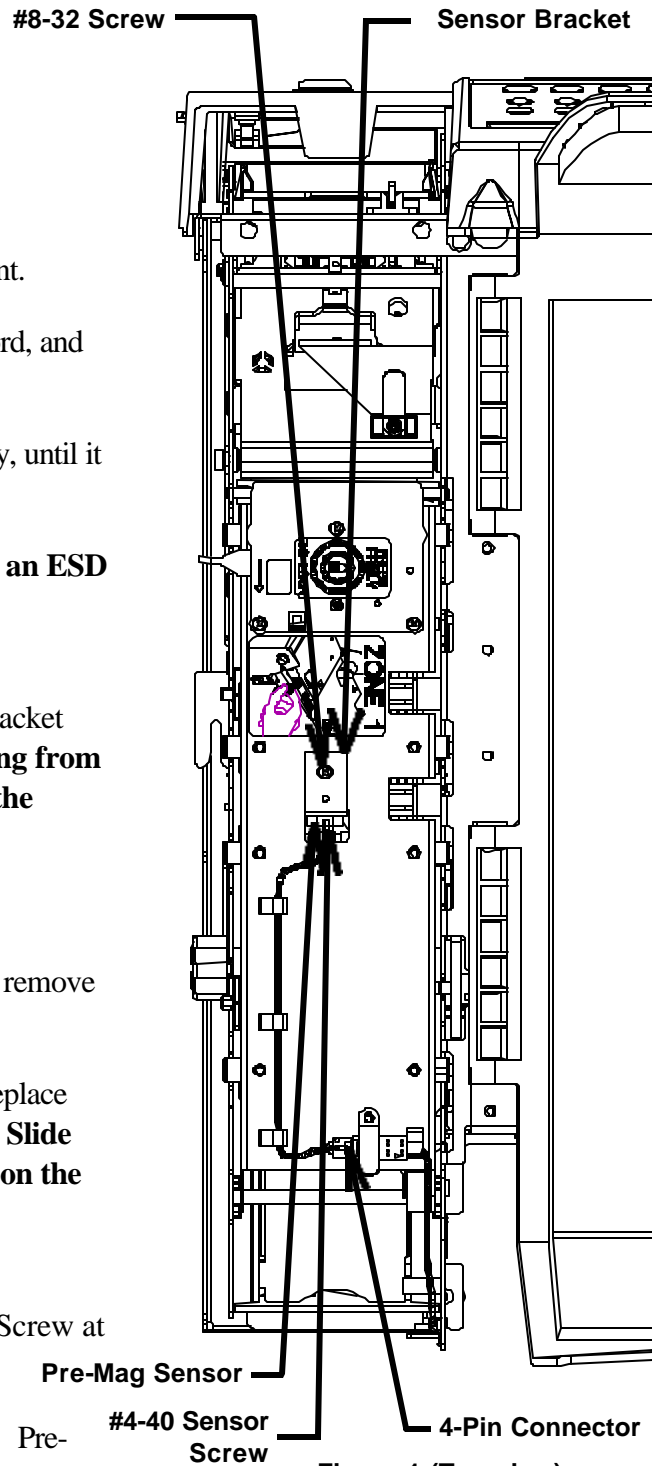

Figure 1 (Top view)
5. Remove (1) #8-32 Screw and lift out the Sensor Bracket (Figure 1). **IMPORTANT: Note the cable routing from the sensor to the connector and the position of the sensor before removing.**
6. Remove (1) #4-40 Sensor Screw.
9. Replace Sensor Bracket and secure with (1) #8-32 Screw at previous location.